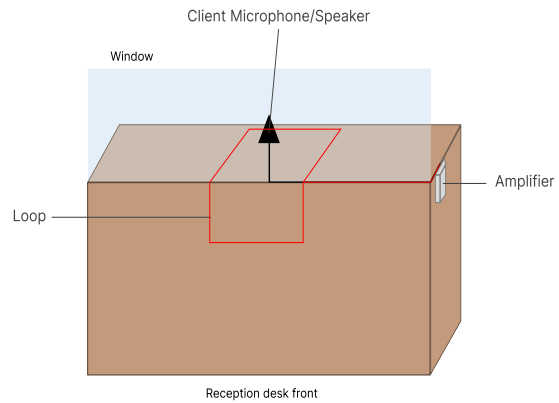

Figure 3
- Place the loop on vertical and horizontal portion as shown in the figure 3, astride the corner of the reception desk.